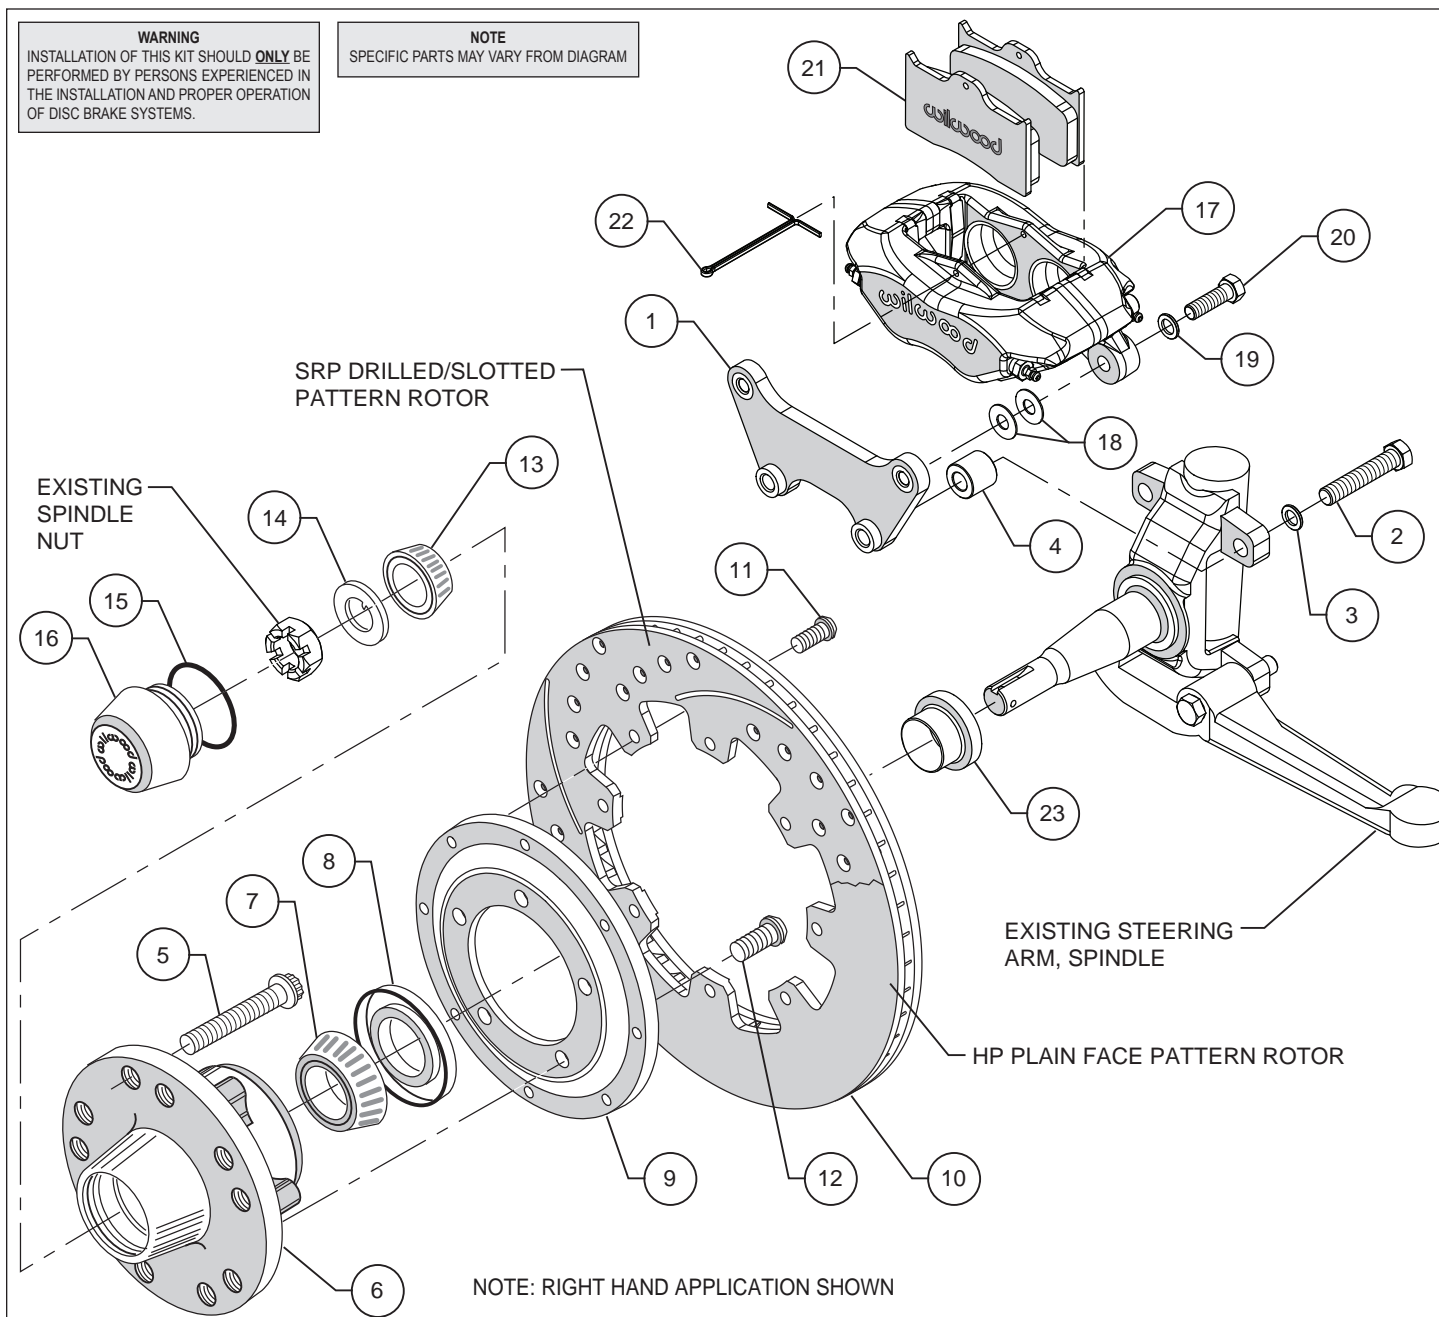
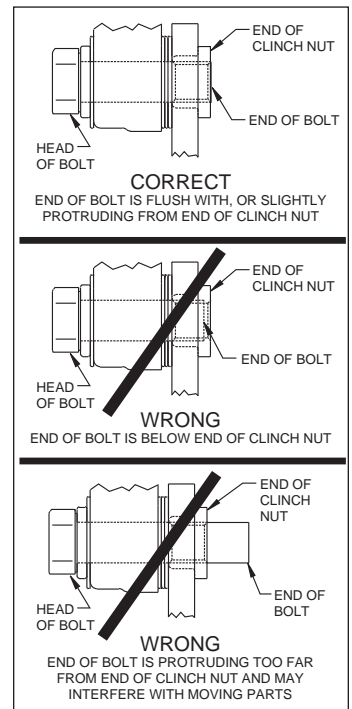

Figure 1. Typical Installation Configuration
Figure 3. Clinch Nut Engagement Diagram
**Assembly Instructions** (numbers in parenthesis refer to the parts list and Figure 1 on the preceding pages): **CAUTION:** All mounting bolts must fully engage clinch nuts. Be sure to check that all bolts are either flush or protruding through flanged side of clinch nut after shimming, Figure 3.
- Orient the caliper mount bracket (1) as shown in Figure 1 and Photo 1, and install using bolts (2) and washers (3). Place a spacer (4) on each bolt between the bracket and caliper mounting bosses, Figure 1. Ensure that the flanged heads of the clinch nuts in the bracket are facing outboard, Photo 1. Temporarily tighten the mounting bolts. **NOTE:** The bracket must fit squarely against the mount bosses on the upright. Inspect for interference from casting irregularities, machining ridges, burrs, etc. Remove bolts one at a time, apply red *Loctite*® 271 to the threads and torque to 70 ft-lb.
- Slide the inner bearing spacer (23) onto the spindle with the larger O.D. facing inward, Figure 1 and Photo 2.
- Install wheel studs (5) into the hub (6), Photo 3. Torque to 77 ft-lb. **NOTE:** There are two five lug patterns in the hub (5 x 4.75 and 5 x 5.00). Ensure the correct hub stud pattern is being used to fit the wheel application.
- Pack the large inner bearing cone (7) with high temperature disc brake bearing grease (available from your local auto parts store) and install into the backside of the hub (6), Photo 4.
- Install the grease seal (8) by pressing into the backside of the hub (6), flush with the end of the hub, Photo 4.
- Orient the rotor (10) and the rotor adapter (9) as shown in Figure 1 and Photo 5. Attach the rotor to the adapter using bolts (11). Using an alternating sequence, apply red *Loctite*® 271 to the threads, and torque to 180 in-lb.
- Mount the adapter/rotor assembly (9/10) to the hub (6) using bolts (12), as shown in Figure 1 and Photo 6. Using an alternating sequence, apply red *Loctite*® 271 to the threads, and torque to 55 ft-lb.
- Pack the small outer bearing cone (13) with high temperature disc brake bearing grease and install into hub (6). Slide the hub/rotor assembly onto the spindle. Secure using spindle washer (14) and OEM spindle nut, Photo 7. Adjust bearings by tightening the wheel bearing nut to 60 in-lbs. while turning the hub/rotor assembly (9/10). Install saved OEM nut lock (if any) on
- NOTE:** Please reference the caution statement at the beginning of the assembly instructions. Mount the caliper (17) onto the caliper mounting bracket (1) using bolts (20) and washers (19), as shown in Figure 1. Initially place two .035" thick shims (18) on each bolt between the caliper and the bracket, Photo 9. Temporarily tighten the mounting bolts and view the rotor (10) through the top opening of the caliper. The rotor should be centered in the caliper, Photo 10. If not, adjust by adding or subtracting shims between the bracket and the caliper. Always use the same amount of shims on each of the two mounting bolts. **NOTE:** The end of each bolt must be flush with or slightly protruding from the head of the clinch nut, as shown in Figure 3. If necessary place spare shims between washer (18) and caliper mounting ear to achieve the proper clinch nut engagement. Later, after the calipers are bled, the caliper mounts bolts will be secured using red *Loctite*® 271.